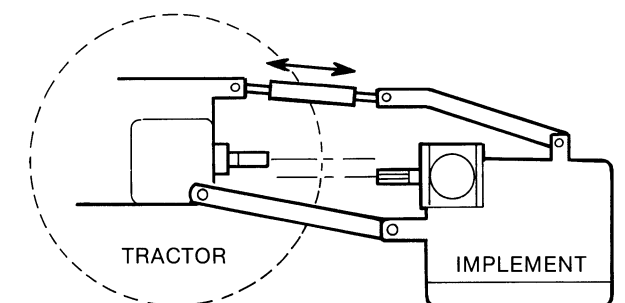

Figure 13
2. Adjust the tractor top link until the implement gearbox input shaft is parallel with the tractor PTO shaft as shown in Figure 13.